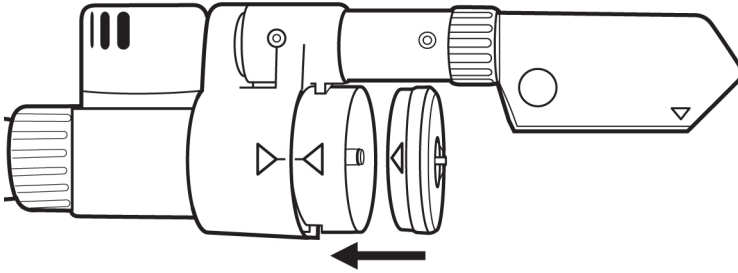

Fig. 2-20 Inserting the *DLCO barriette™*
- Insert the *DLCO barriette™* in the one-way valve (aligning the arrows) as shown in Fig. 2-20 and check that it sits tight.